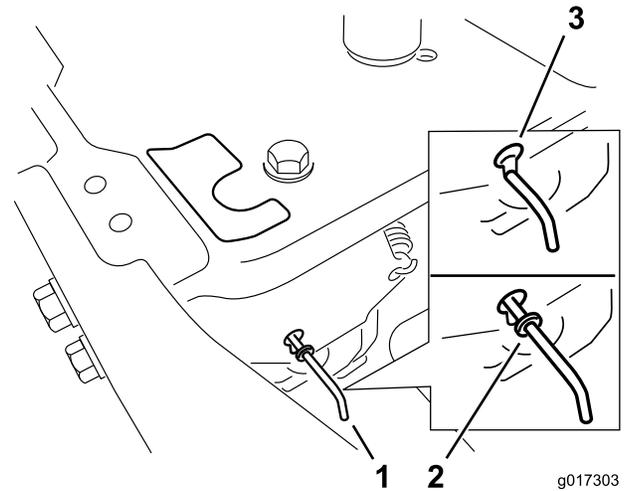

Figure 23
- Move the bypass levers forward through the key hole and down to lock them in place as shown in Figure 23. Ensure this is done for each lever.
Move the bypass levers rearward through the key hole and down to lock them in place as shown in Figure 23. Ensure this is done for each lever.